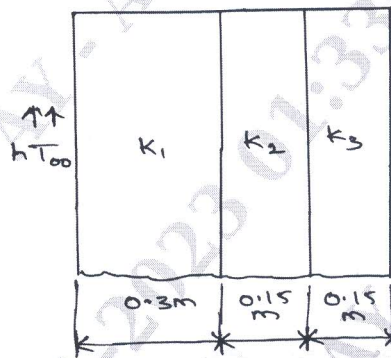

Fig Q10(c)
c. Solve for temperature distribution in the composite wall as shown in Fig Q10(c), using 1-D heat elements, use penalty approach of handling boundary condition.